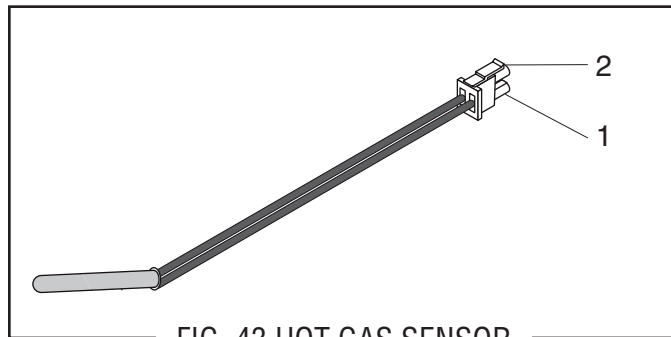

FIG. 43 HOT GAS SENSOR
5. Refer to Fig. 43 and plug the new sensor into the connector on the main harness.